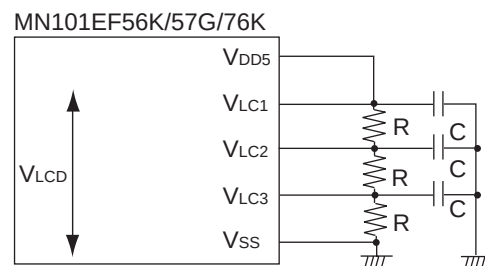

Figure:22.3.1 Examples of Connecting LCD Power Supply (using External Voltage Dividing Resistor)
1. If LCD power supply is connected as indicated in Figure:22.3.1, electric current is always applied to dividing resistors. To stop the current, connect the power supply according to the procedures specified below. ($V_{LC1}=V_{DD5}$)